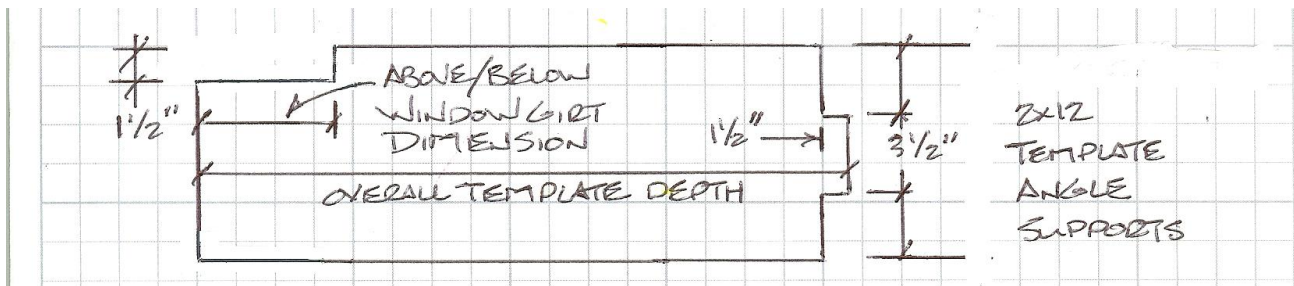

Figure 57-3: Template Angle Supports
Cut a 2x12 to four (4) pieces equal in length to overall depth. Cut out a notch 1-1/2" vertical by above window girt dimension horizontal (2x6 = 5-1/2", 2x8 = 7-1/4", 2x10 = 9-1/4", etc.) from top edge at one block end. Cut two (2) notches in opposite end 3-1/2" vertical and 1-1/2" horizontal. Set two aside. **See Figure 57-3.**